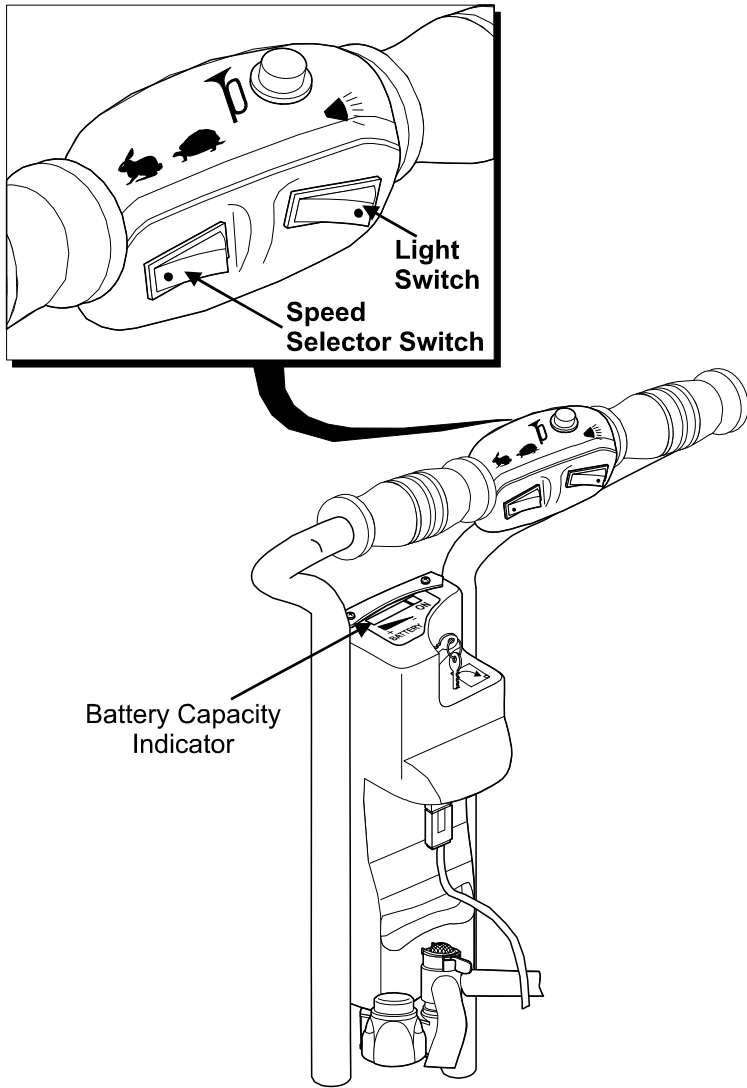

Figure 11.
When selector is in **High Speed Mode** – Green light of switch is ON. (See Fig. 11).
* When selector is in **Low Speed Mode** – Green light of switch is OFF. (See Fig. 11).